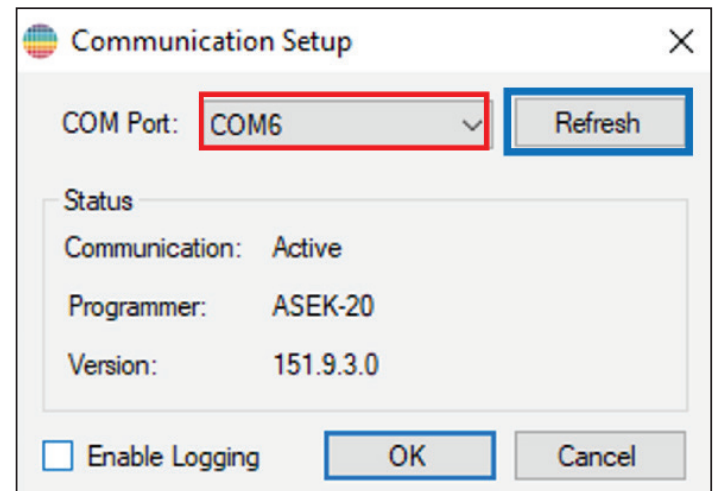

Figure 11: Communication Setup Dialog Box
To connect the ASEK-30, select the setup option, then select the communication setup option. The dialog box in Figure 11 appears. In the COM port drop-down menu options, click the correct COM port number. If the COM port is unknown, perform the following:
2. Click the refresh button (outlined in blue in Figure 11, top right.) in the communication setup dialog window